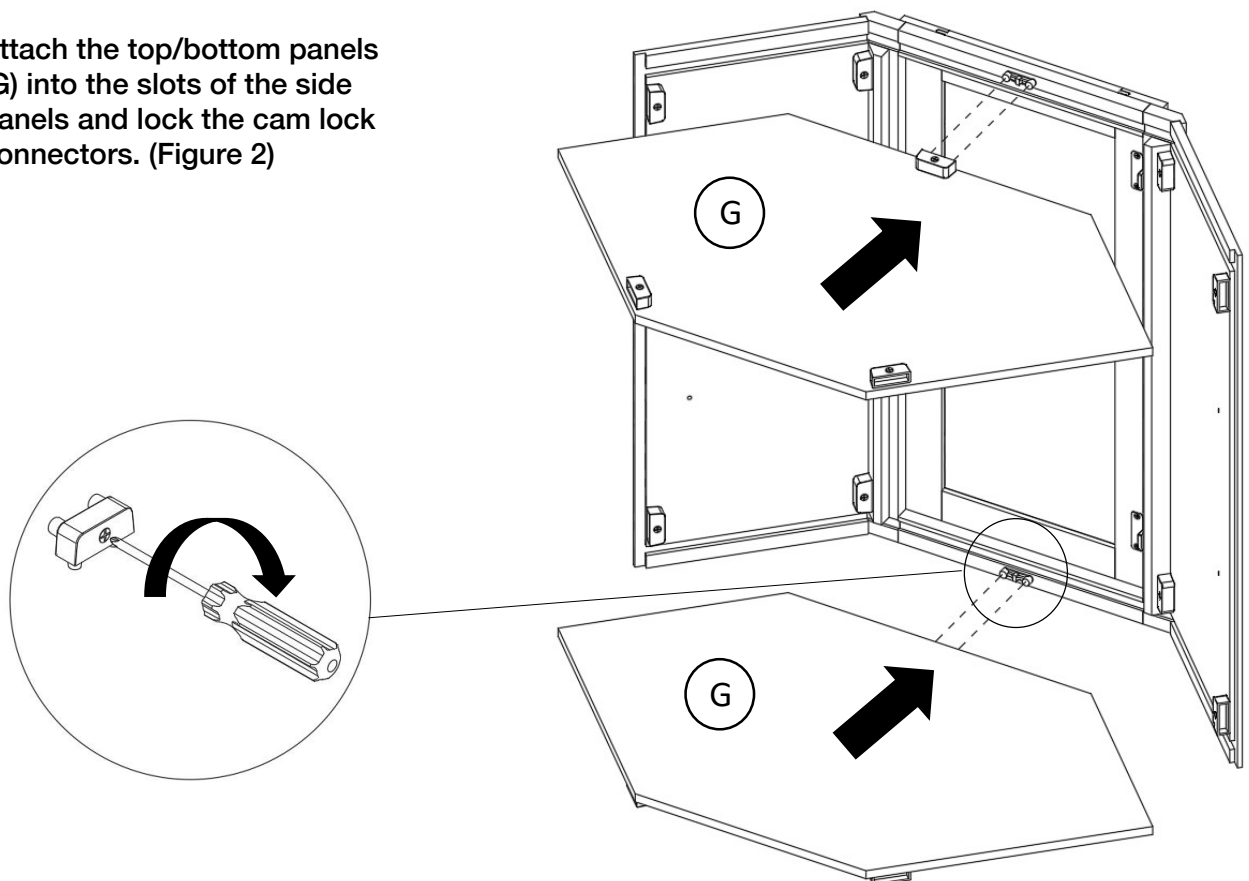

Figure 2
Attach the top/bottom panels (G) into the slots of the side panels and lock the cam lock connectors. (Figure 2)